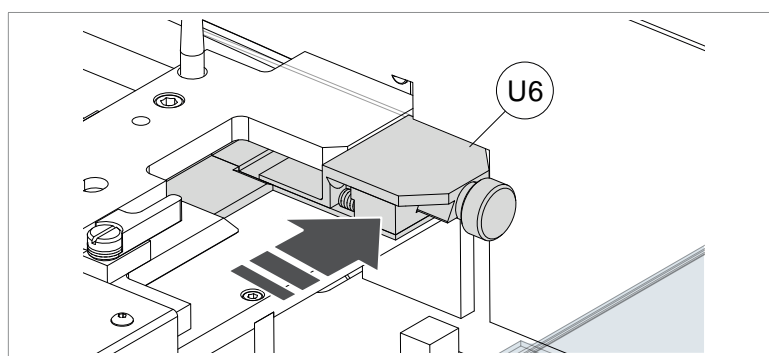

Fig. 137
- 17) Open the flap and take the feeder plate up against the transfer unit, ensuring it is all the way in (Fig. 137).